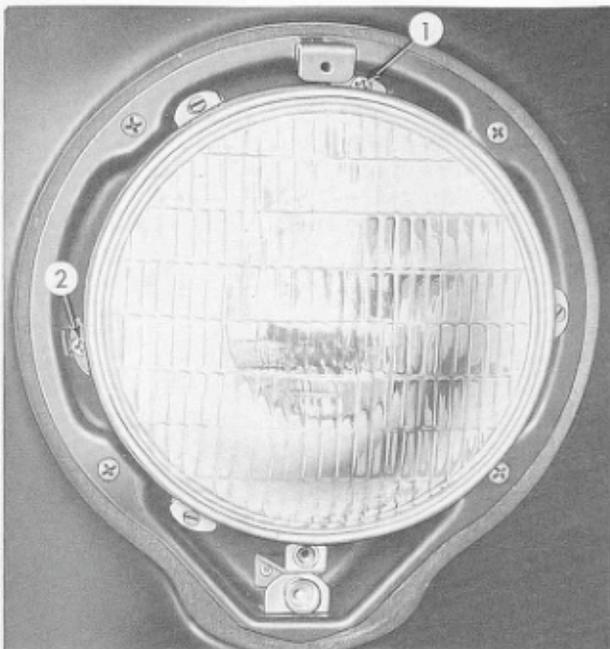

Fig. 5
Aiming Headlamps -- To aim (adjust) the headlamps, use an adjusting screen or headlamp tester. The screw at the top of the headlamp body (1, Fig. 5) controls the vertical adjustment, whereas the screw at the left of the headlamp body (2) controls the horizontal adjustment.